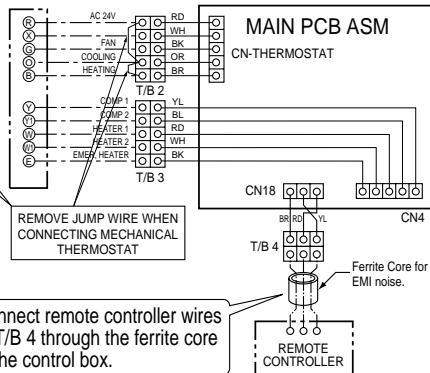

Figure 5F
■ Heat pump - 2 Comp, 2 Heater(Figure 5F)